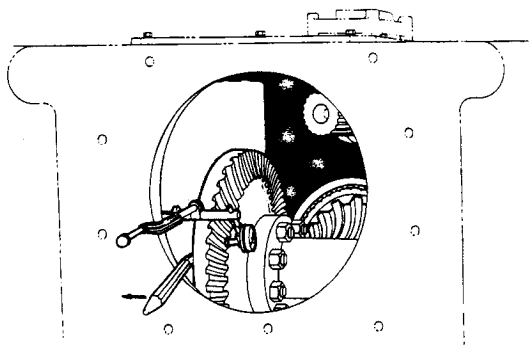

Fig. 47 -- Checking for Bevel Gear End-Play (T-70854)
1. Before installing transmission, bevel gear shaft bearings must be checked for end-play. As it is impractical to check bearing preload as described in "BEVEL GEAR AND SHAFT" (steering clutches removed), refer to Fig. 47 and check bearing end-play by positioning dial indicator through power take-off access hole (if tractor has rear mounted equipment, remove bevel gear compartment cover and work through top of bevel gear compartment). Pry bevel gear in both directions (not too hard); if ANY end-play is shown on dial indicator, steering clutches must be removed and bearing pre-load readjusted; refer to "BEVEL GEAR AND SHAFT".